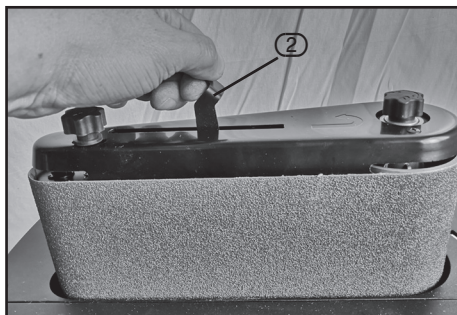

FIG.8
If no sanding belt is fitted, move the belt release lever (2) towards the spindle knob to allow the belt to be fitted. Ensure movement is controlled due to the tensioned spring loaded mechanism avoided potential damage or injury. FIG.8.
Fit the sanding belt and check that it is lined up level at the correct height on the main roller of the belt sanding unit. Ensure the orientation of the belt is correct and matches the direction of the arrow. FIG.8.